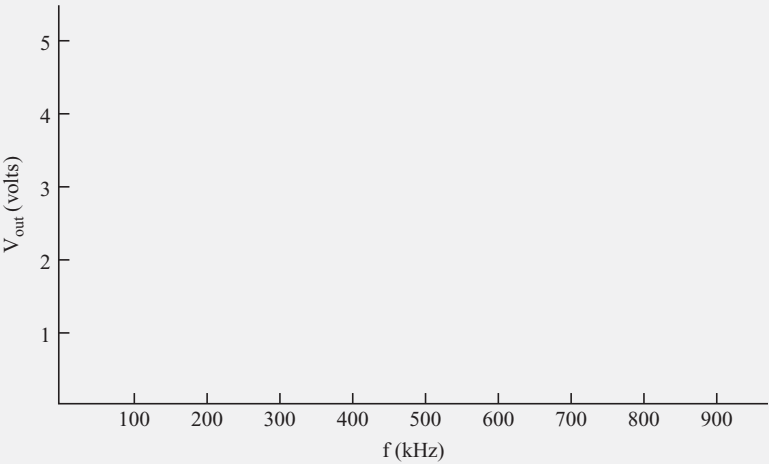

FIGURE 7.23
- 8. In the blank graph shown in Figure 7.23, plot  $V_{out}$  versus  $f_{in}$  with the voltage on the vertical axis and the frequency on the X axis. The curve should have the same shape as the curve shown in Figure 7.20.